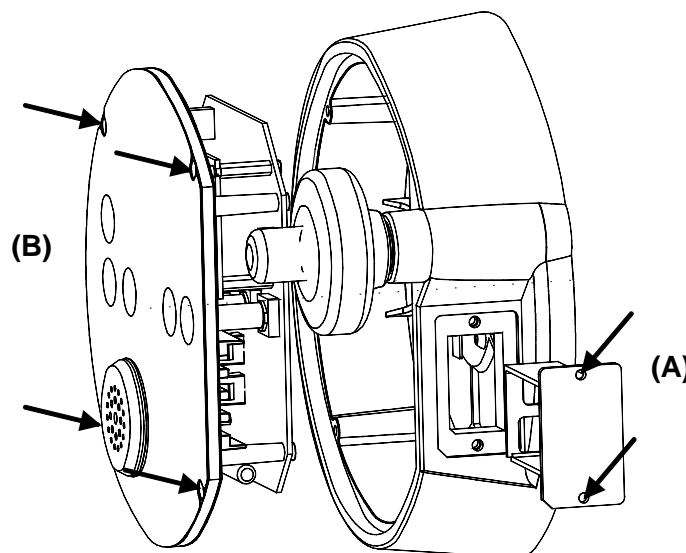

Figure 10-4
- Unscrew with the 2.5 Allen key the 4 screws (B) of the display unit and pull it gently out as shown on Figure 10-4.